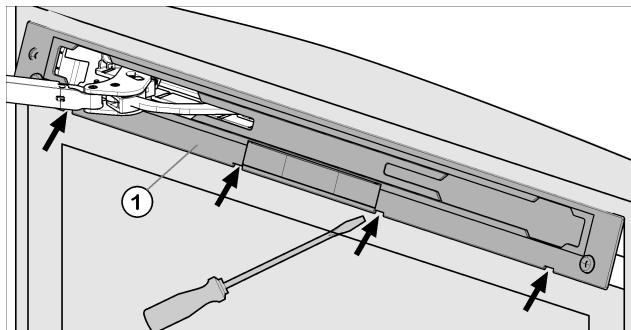

Fig. 4
- Release panel Fig. 4 (1) using a slotted screwdriver and remove.